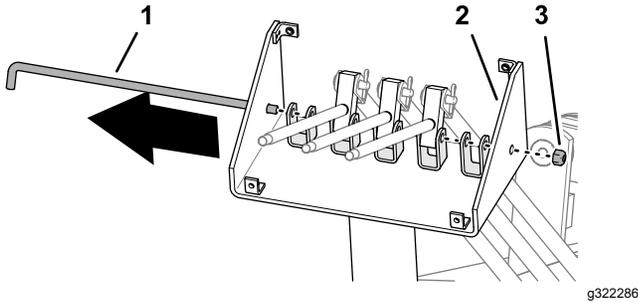

Figure 24
1. Remove the locknut that secures the pivot pin to the control console, and remove the pin (Figure 24).